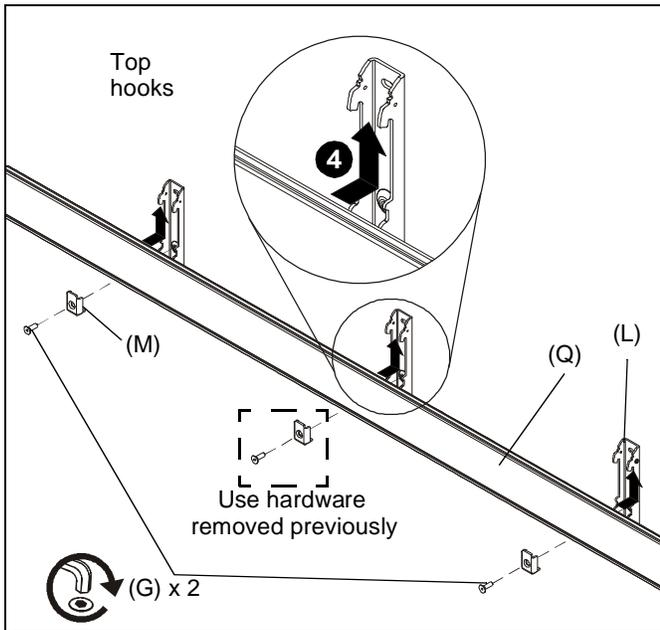

Figure 12
4. Place wall mount (Q) onto wall brackets by lifting mount up under wall bracket (L) top hooks and swinging bottom of mount against wall brackets. (See Figure 12)
5. Fasten wall mount (Q) to wall brackets (L) using two wall mount clamps (M) and two 5/16 x 1" flat head cap screws (G). (See Figure 12)
NOTE: Also use flat head screw and mount clamp removed earlier from existing wall bracket for attachment to third wall bracket. (See Figure 12)